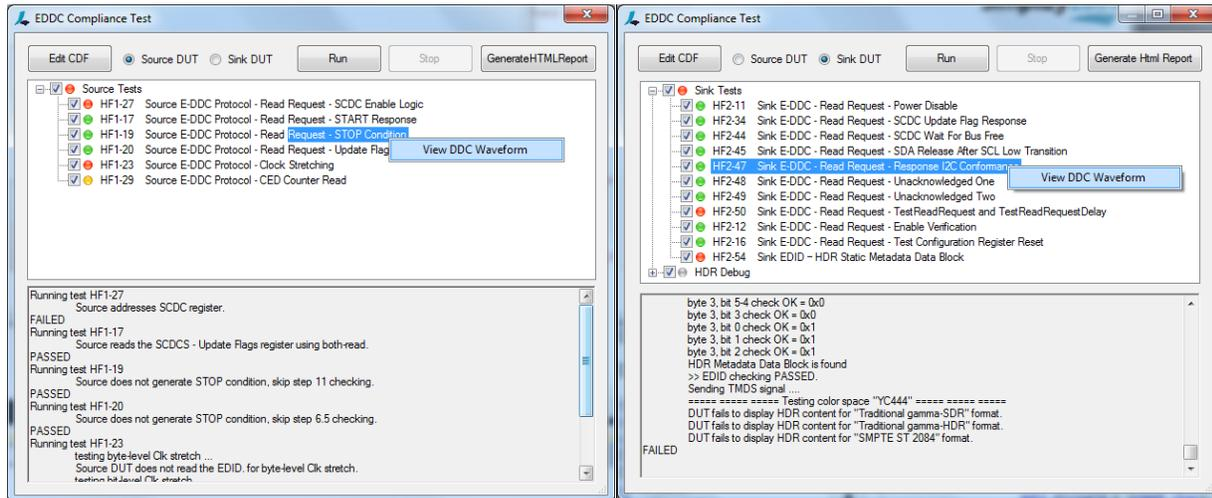

Figure 4.7. DDC Waveform Viewer
- After all the selected tests, for either Source Test or Sink Test in the EDDC compliance test, are completed, right click on the test case. Click “View DDC Waveform” to get a detailed DDC log (Figure 4.7).